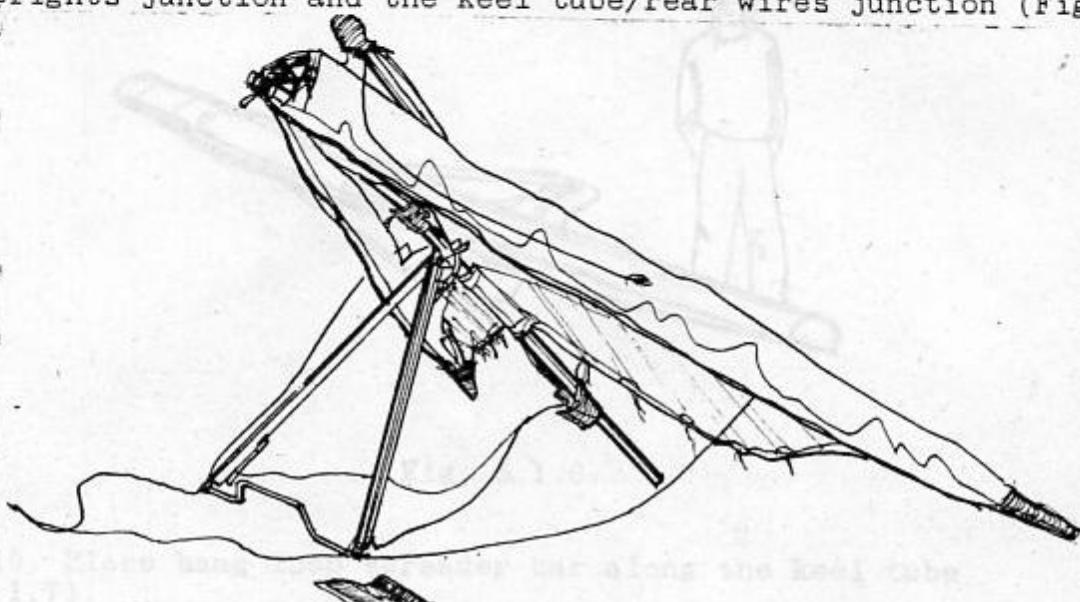

Fig. 5.1.4.
7. Detach the hook of the top rear wire from the kingpost and attach it to the top front wire after kingpost is pulled down. Fit the bags over the wing tips, the kingpost top, the keel tube/uprights junction and the keel tube/rear wires junction (Fig. 5.1.4).